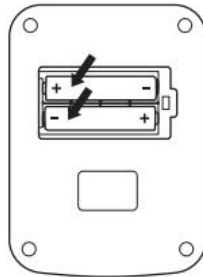

Figure 1.1
- If using batteries, install two AA batteries. When inserting the batteries, pay attention to the positive (+) and negative (–) terminals and install them correctly as shown in Figure 1.1.